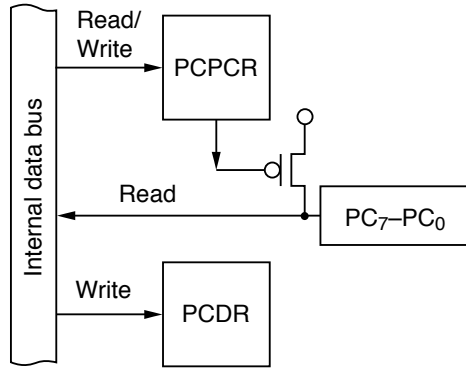

Figure 9-83 Input Port with Built-In Pull-Up Transistors (Mode 7)
(2) Input Port with Internal Pull-Up (All Pins: Mode 7): Figure 9-83 shows a block diagram illustrating the general-purpose input function of port C using the built-in input pull-up transistors. Table 9-60 indicates register read/write data. Values written in the port C data register (PCDR) have no effect on general-purpose input lines. When read, PCDR returns the value at the pin. When a bit in the port C pull-up transistor control register (PCPCR) is set to 1, the corresponding PCDR bit always reads 1.